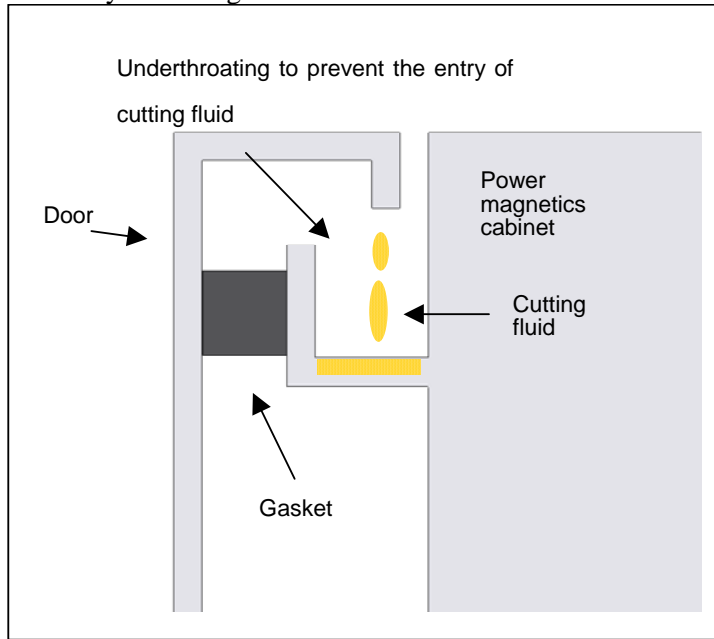

Fig. 8 Explanation of underthroating
- <7> Provide an underthroating at the portion where the power magnetics cabinet frame meets the door (Fig. 8) to prevent the entry of cutting fluid.